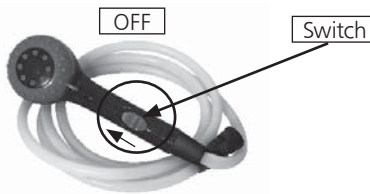

FIG. 6
- The water flow can be stopped at any time by sliding the Switch to the "OFF" position (upwards). (FIG. 6) The burner will extinguish and the pump will continue to operate for 5 minutes. To reignite the burner slide the Switch back to the "OPEN" position (downwards), water will flow from shower head and the burner will reignite within 5 to 10 seconds